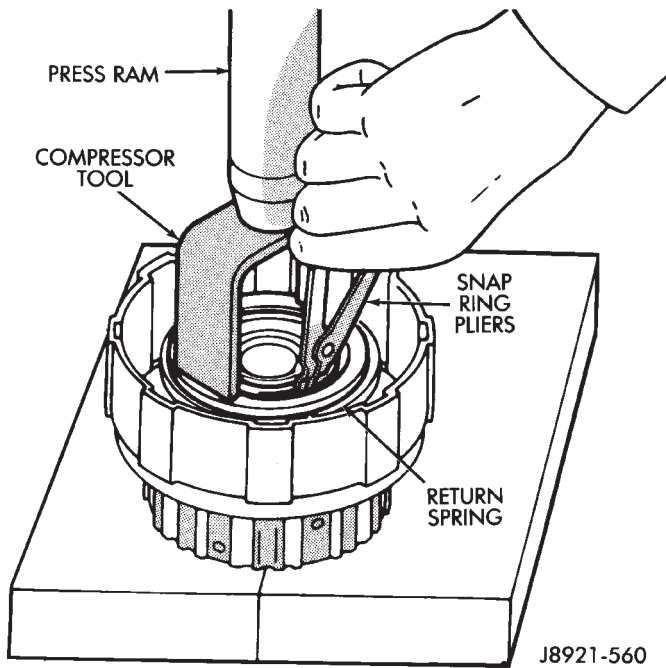
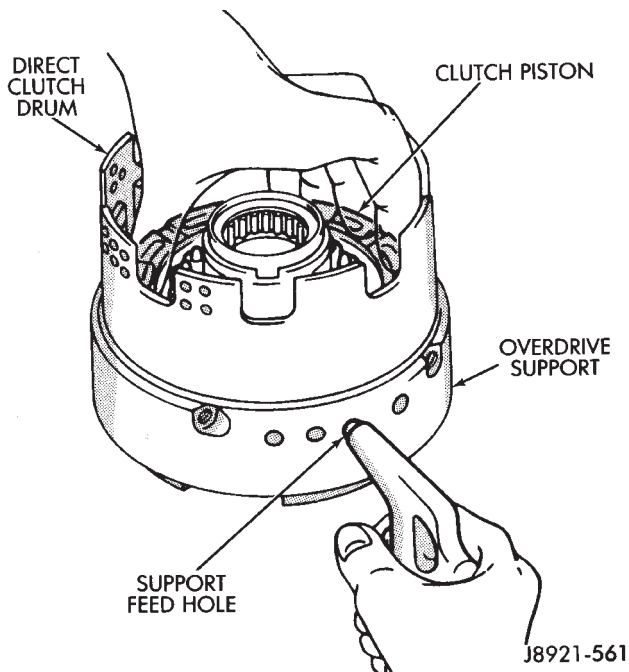

Fig. 7 Removing Piston Return Spring
Fig. 8 Removing Direct Clutch Piston
(9) Compress clutch piston return springs with Compressor Tool 7538 and remove clutch piston snap ring (Fig. 7).
(10) Remove compressor tool and return spring.
(11) Remove clutch piston. Remount clutch on overdrive support (Fig. 8). Apply compressed air through
(1) Lubricate and install replacement O-rings on clutch piston.
(2) Install clutch piston in drum and install return springs on piston.
(3) Compress piston return springs with Tool 7538 and install snap ring (Fig. 7). Be sure snap ring end gap is not aligned with spring retainer tab.